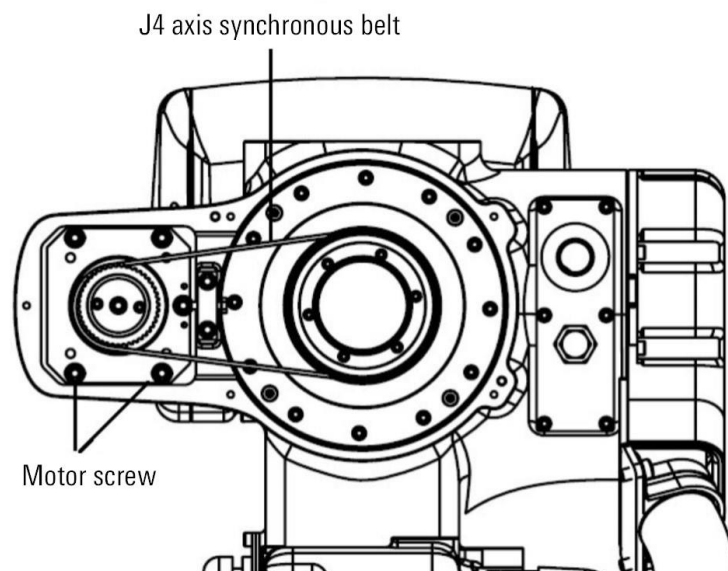

Figure 12-7 Diagram of replacing J4 axis synchronous belt
Step6. Loosen the installation screws of J4 motor assembly, as shown in Figure 12-7, move the motor pulley assembly, remove the old synchronous belt, and install the new synchronous belt.